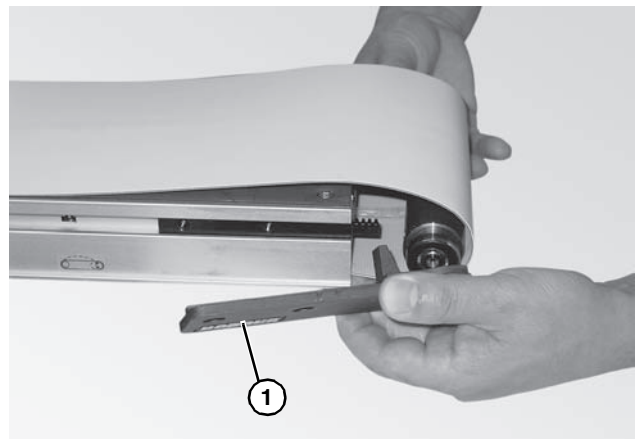

Figure 41
2. Place the head plate (**Figure 41, item 1**) and attach the head plate to the conveyor frame with the two (2) screws removed and hand tighten.